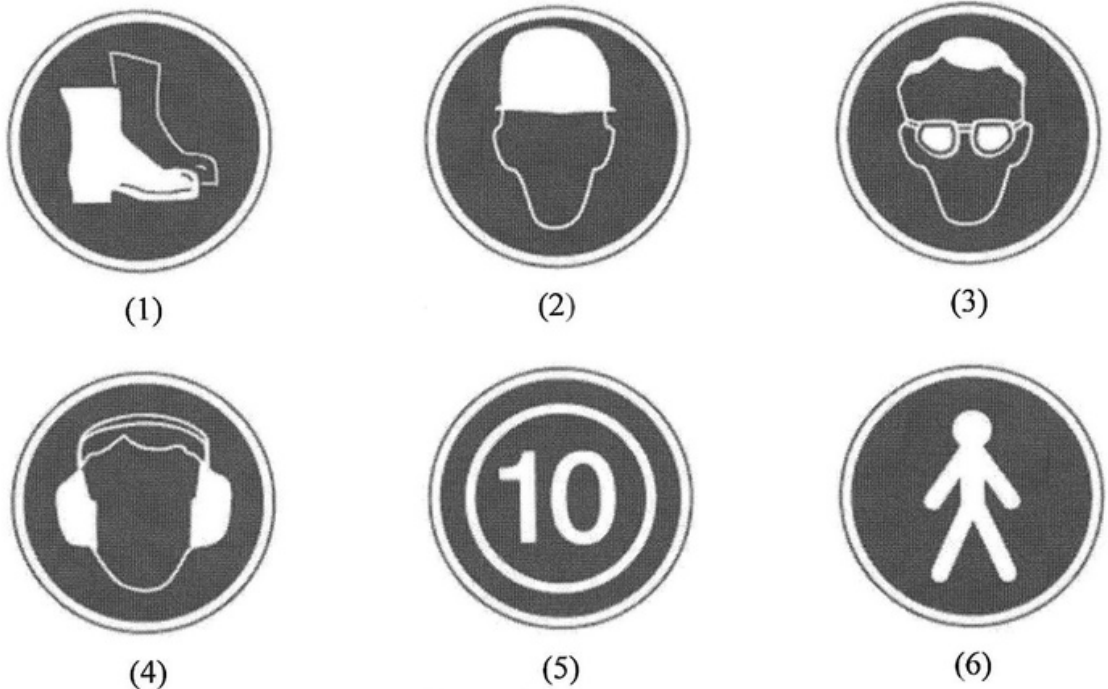

Figure 1
1. (a) **Figure 1** shows examples of safety signage used on the building construction site.